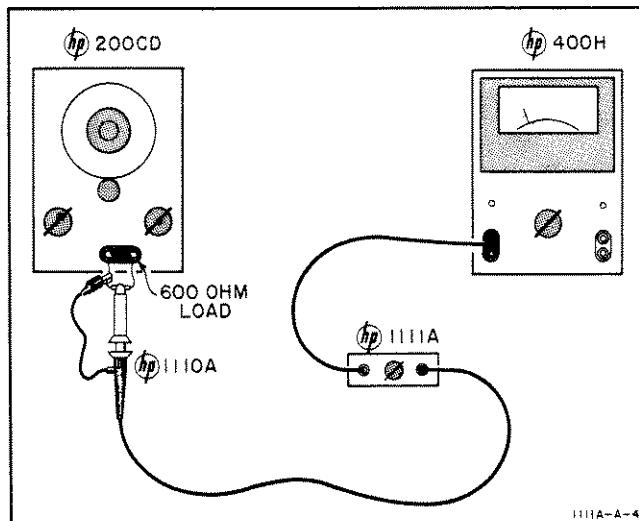

Figure 5-2. Oscillator-Voltmeter Test Setup
- a. Refer to Table 5-1 and Figure 5-2 and connect test equipment. Items required are 2, 3, 4 and 9.
- Refer to Table 5-1 and Figure 5-2 and connect specified equipment, items 2, 3, 4 and 9.